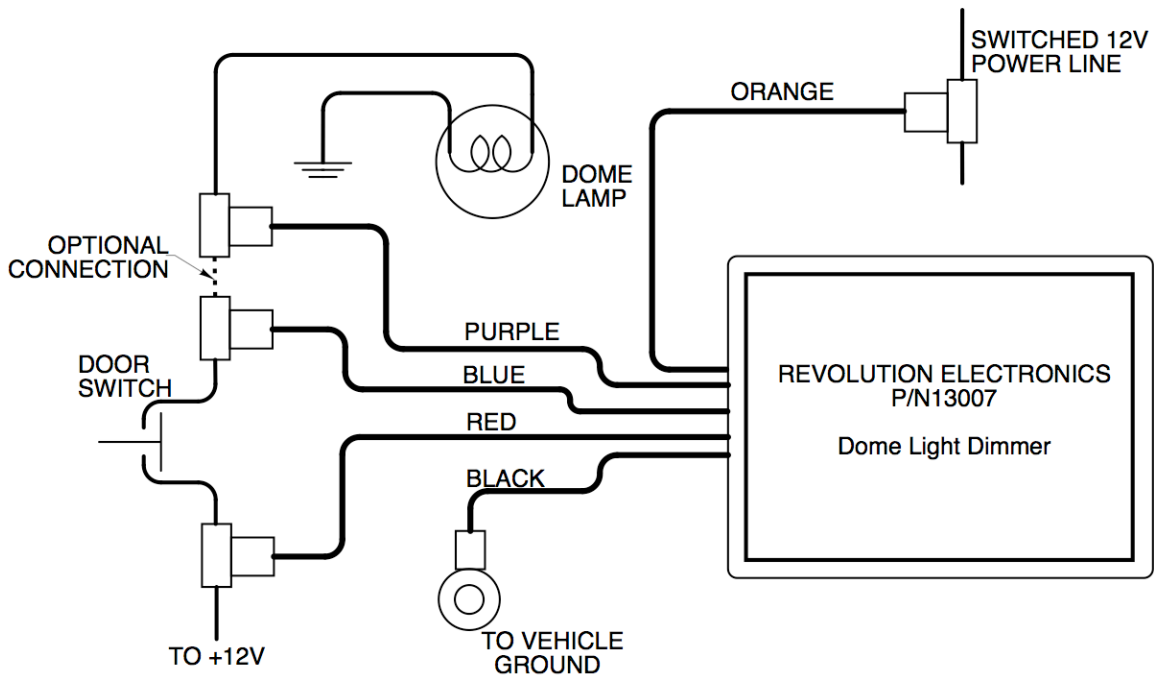

Figure 1
The Dome Light Dimmer needs connections to constant power, switched power, the dome light power wire, the door switch sense line, and a main ground lead. Figure 1 shows a basic schematic of how the unit should be wired.
**Optional Connection** – in Figure 1, there is a dotted line between the T-Taps for the Purple and Blue wires. If you place the T-Taps appropriately (one on either side of the factory connector routing a wire up to the dome light), you can remove one of the wires from the connector to sever the signal going directly from the door switch to the dome light. You could just cut the line but it is easier to go back to stock if you remove the wire from the connector. Removing this connection gives the dimmer module complete control of the dome light, allowing it to softly brighten the light when the door opens and to turn off the light if the door is left open too long.